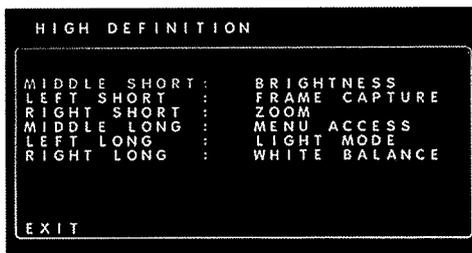

Figure 37.
1. Press **Select** to open that procedure's button customization screen (Figure 37).